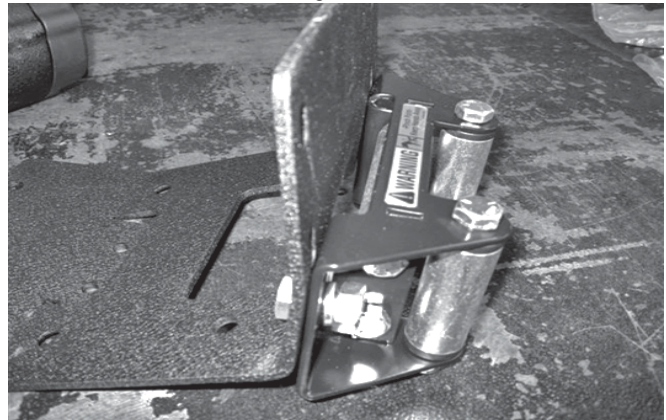

Figure 7
8. Mount the roller fairlead to the mounting bracket using the M10-1.5 x 20mm hex head cap screws, lock washers and hex nuts. (figure 7)